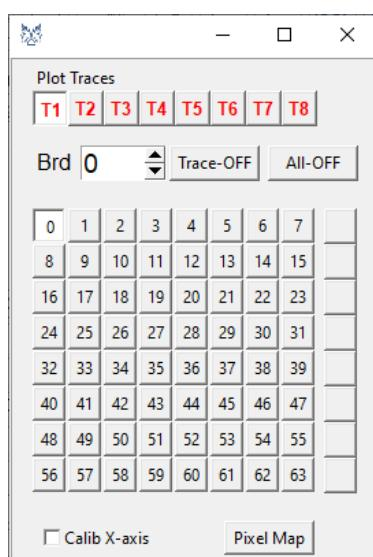

Fig. 10.24: Plot Traces window.
- Press the "Plot Traces" button  A window similar to that in Fig. 10.24 is opened. The window allows the user to choose between the different traces that can be visualized in the same *gnuplot* window.
7. Put a thick on the "Calib X-axis" parameter of the Janus Plot Traces window (see Fig. 10.24) in order to convert the X axis scale from Channels to ns.